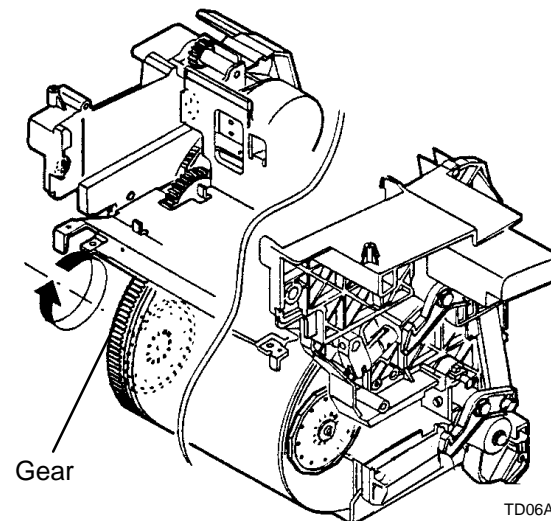

Figure 4. Rotating the Gear
1. (Figure 4): Locate the two adjustment cams on the left and right side of the Transfer Drum. You will need to rotate the Transfer Drum Gear until the adjustment screw and cam are visible through the cutout on the right side.